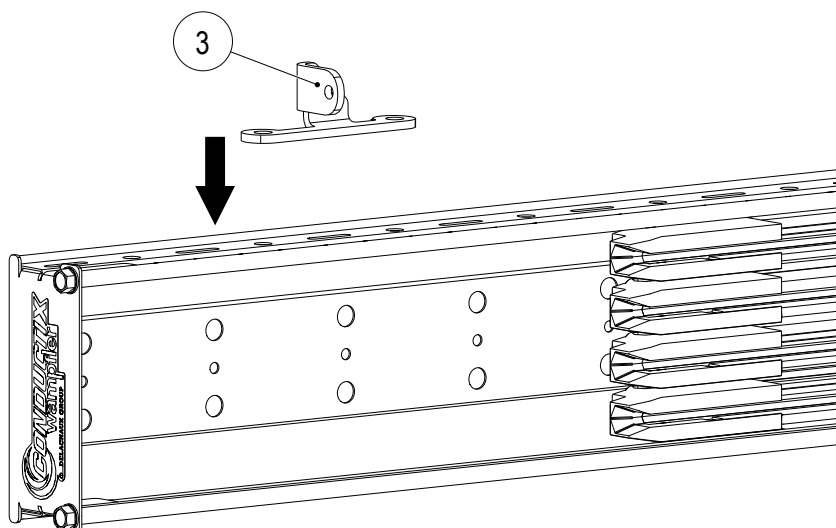
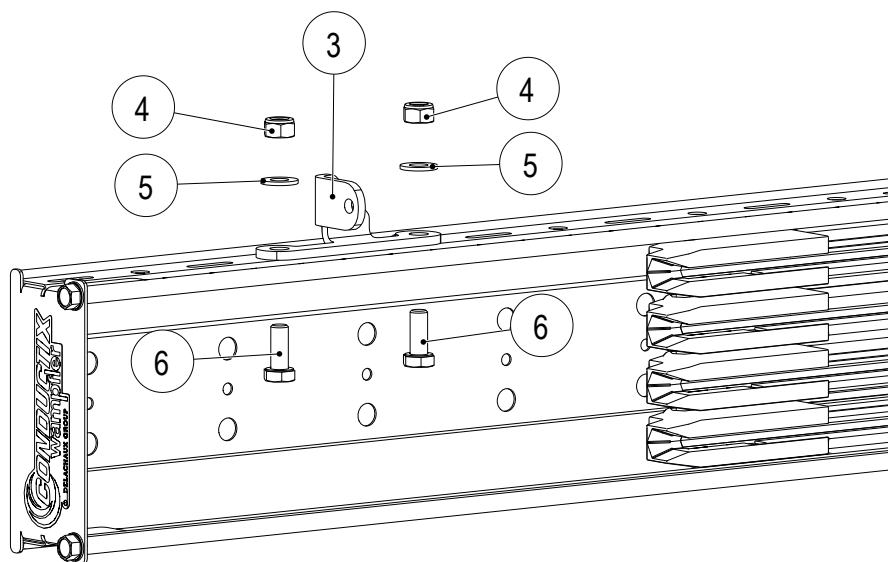

Fig. 42: Align bracket (3) with the ProShell support profile
Fig. 43: Install bracket (3) with the screw connections (4, 5 and 6) on the ProShell support profile
3. Tighten the bracket (3) of the clamping unit to the bottom or top of the ProShell support profile using the hexagon screw M6 (6), washer (5) and hexagon nut (4) with an open-end wrench SW10 (see Fig. 42 and Fig. 43).